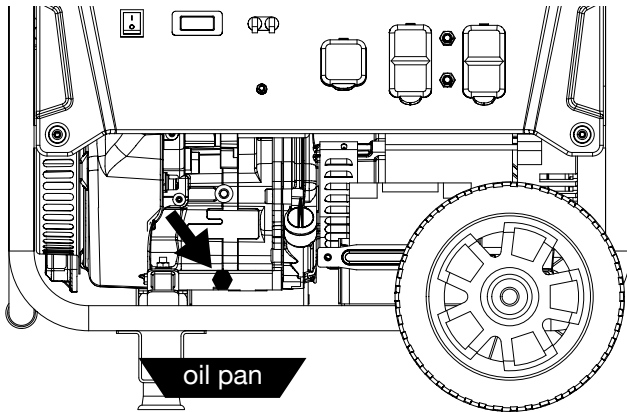

Figure 18 - Oil Drain Plug
3. Place oil pan (or suitable container) under the oil drain plug (see Figure 18).
5. Remove the oil drain plug (see Figure 18). Once removed, place the oil drain plug on a clean surface.